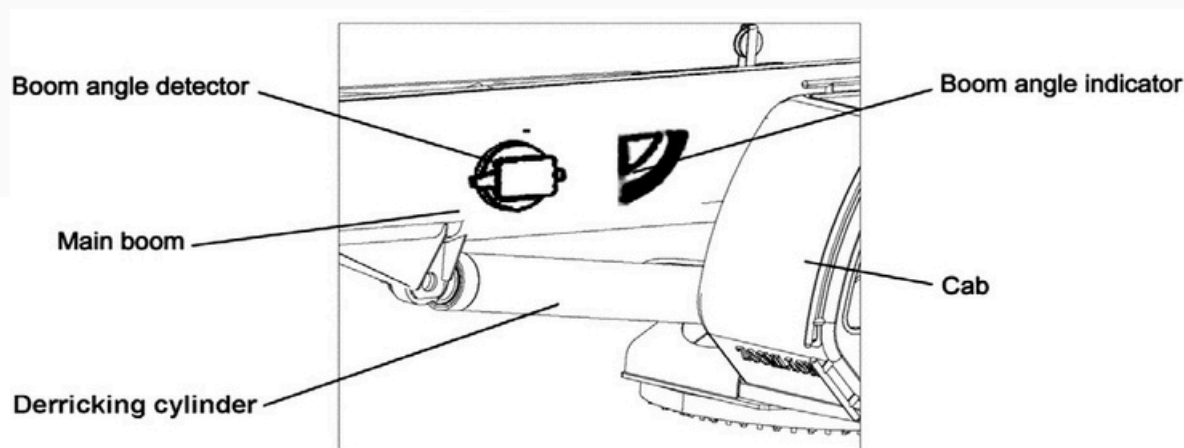

Figure 07 - 24 Boom Angle Indicator / Detector
- F. The boom angle indicator and the angle detector attach to the side of the main boom. Refer to Figure 07 - 24. The operator can see the angle indicator from the cab of the crane. The angle detector is an electronic device that sends the boom angle data to the RCI (Rated Capacity Indicator). The boom angle shows on the display screen.